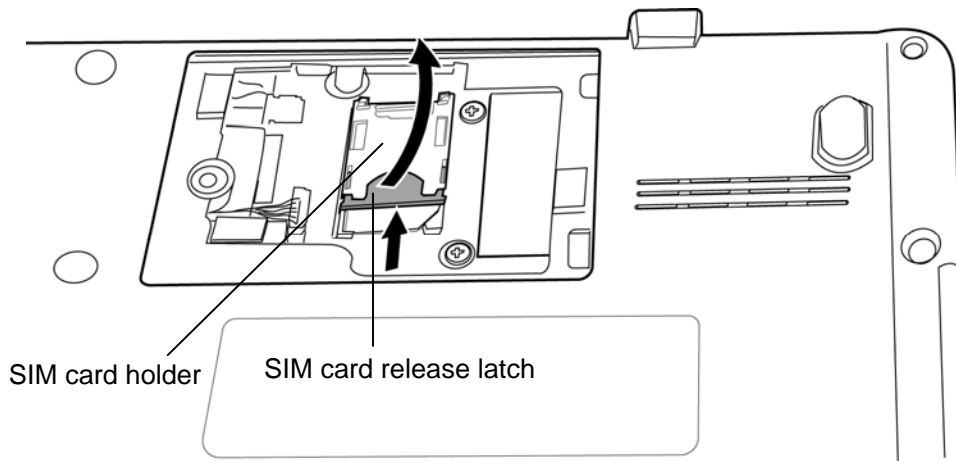

Figure 4-9 Removing the SIM card (1)
2. Lay the **SIM card holder** down and lock the **SIM card release latch** while sliding it in the opposite direction as shown in the figure 4-9.